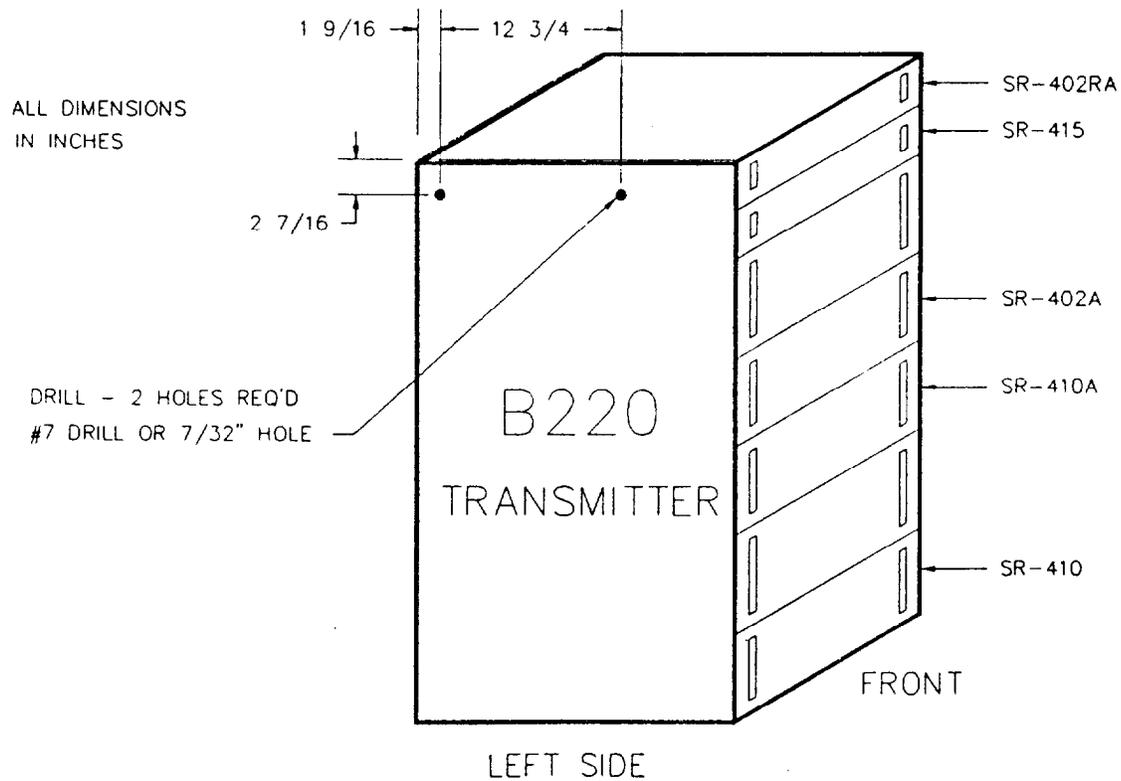

FIGURE 5
- c. Now you can install the model 410872 Convenience Outlet (power strip). See Figure 5 for hole measurements or use drill drawing furnished in modification kit.
- e. Mount the power strip with the hardware supplied above the slide rail assembly. Route the AC power cord for the power strip down along the side of the rack, behind the slide rails, to the interlock assembly, 1A6. Using the three (3) MP0707 cable clamps, H1000D flat washers, and H10064 screws, secure the AC power cord to the three self-tapped channels on the side panel of the rack.
- g. The Remote Control and Maintenance Panel can now be connected to the power strip with the new line cords supplied. There are also spare outlets (4) for test equipment, soldering irons, etc.